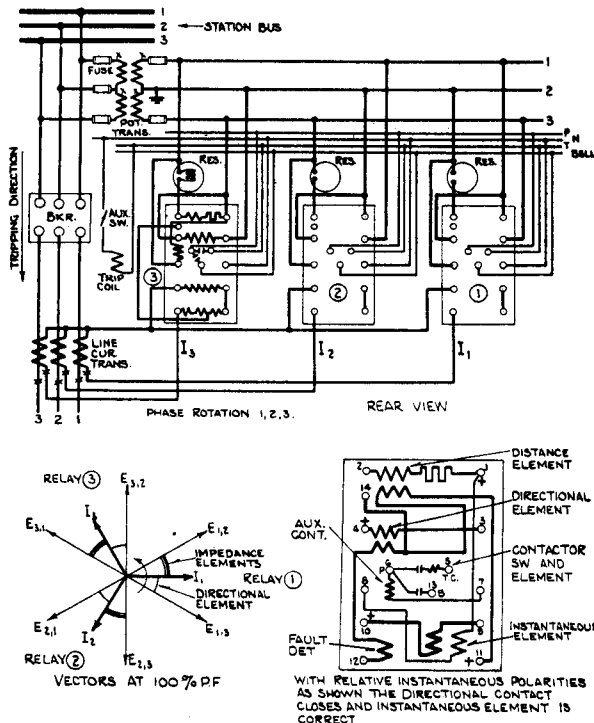
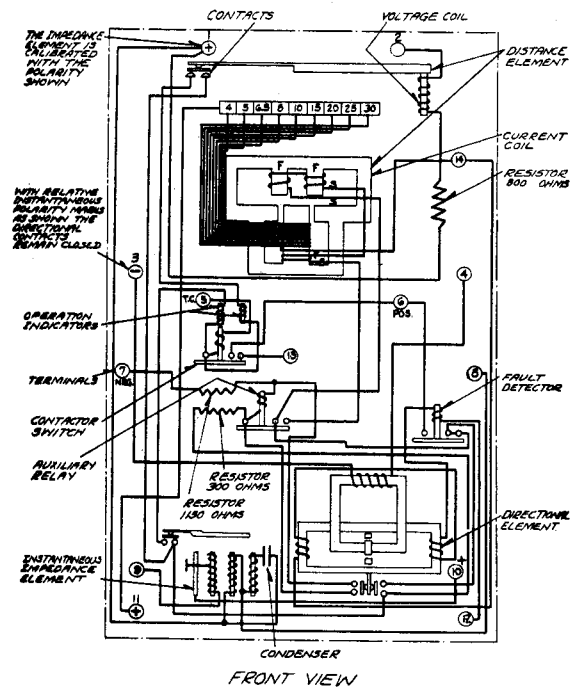

Fig. 4-External connections HCZ 14 Terminal Relay
Fig. 5-Relay-Type HCZ 14 Terminals-Wiring Diagram
Connect the relay in the circuit according to Fig. 4 unless some other diagram has been provided. Care must be taken to insure correct polarity. This diagram shows the conventional connection with star-connected current transformers. Other connections are sometimes used, and for this reason an extra terminal (14) is provided on certain styles of relay, as shown in the internal diagram, Fig. 5.